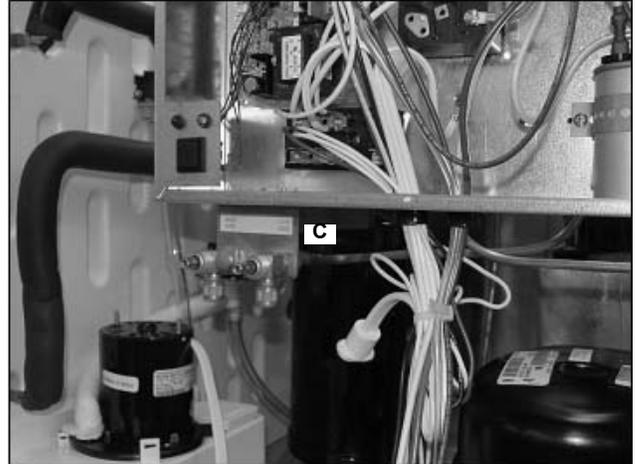

FIGURE 17
14. Remove the 2 screws connecting the service valve bracket (C) to the control box (FIGURE 17).